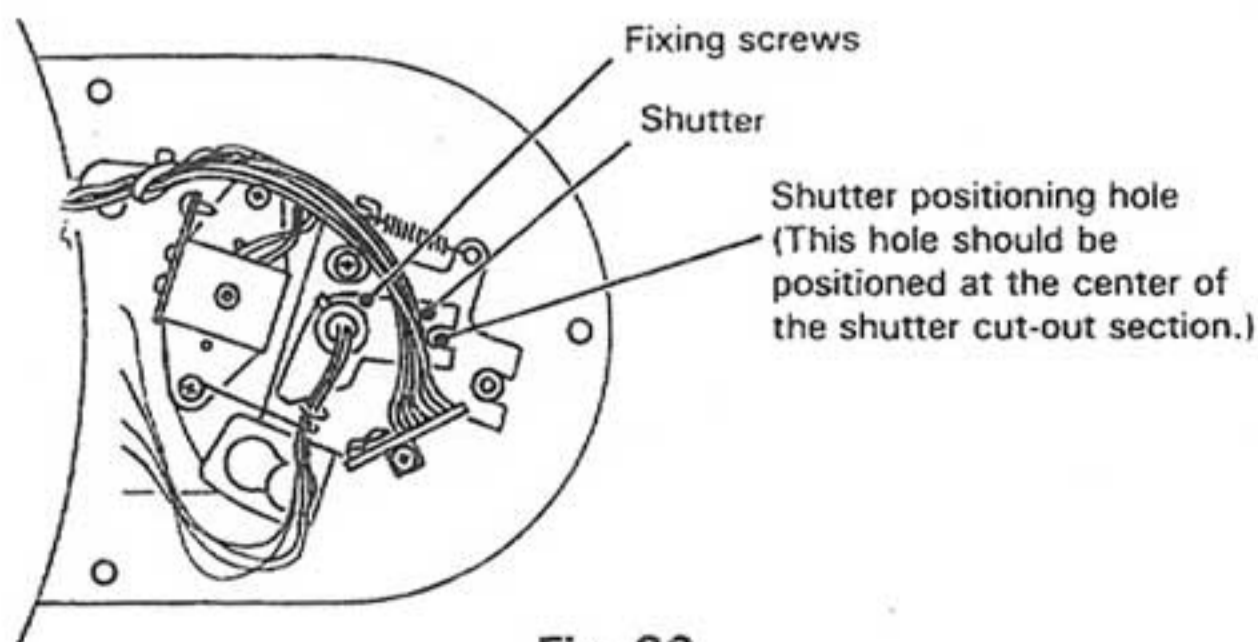

Fig. 20
2. Confirm that the shutter is positioned properly. (See Fig. 20.)